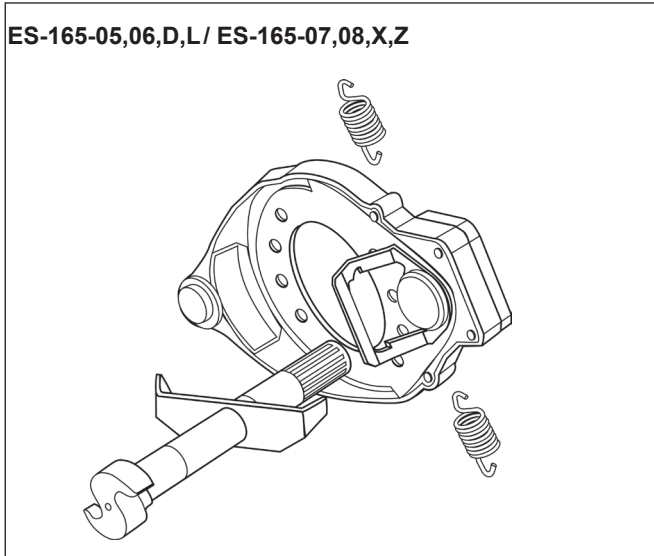

Figure 55 – Horse Collar Retention System
**SPECIAL NOTE:** For ES-165-05,06,07 DL steer axle brakes using the horse collar spring retention system, position the cam head washer with the "stamped spider" arrow pointing towards the center of the spider. The horse collar should be placed over the cam tube first, then the ES washer, and finally the cam. Refer to Figure 55.